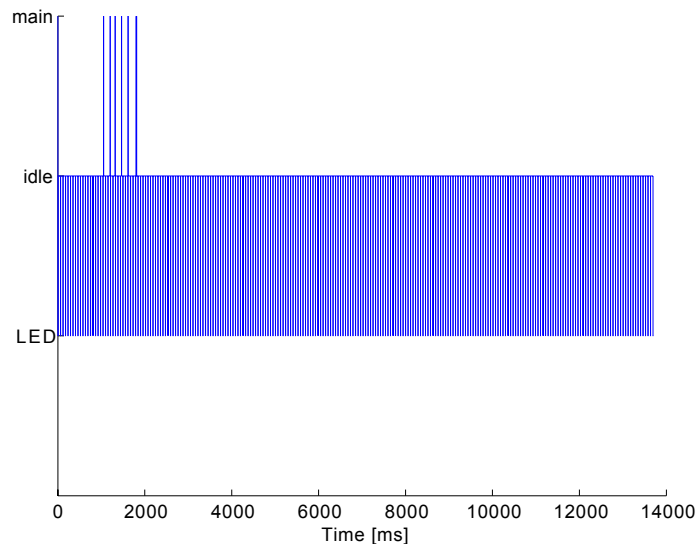

Figure 6.1: Execution of threads for the program listed in Exercise 6.6.
- The list of events does not allow you to quickly understand what is really going on. Therefore we now use the terminal program on the host computer to capture the terminal output in a file. Then we postprocess the trace file we have created in the previous step using Matlab. Thus start Matlab now. Type `show_trace('<the filename of the captured terminal output>')`, which opens a figure like the one shown in Fig. 6.1. Be sure to use a separate log file for each trace captured. In this figure, you can see time on x-axis and three threads on the y-axis.
What you can see is that the BTnode spends most of the time in the idle thread. Periodically, it switches to the LED thread and a few times, the main thread was active. The LED thread is responsible for the periodic blinking of the LEDs, it becomes active approximately every 60ms and takes about 300 μ s to execute. The main thread is responsible for capturing terminal input and launching the corresponding commands. Thus if you did not type `trace` while the buffer was filling, you will see only one spike to the main line at the very beginning of the trace. Otherwise (as shown in Fig. 6.1) you can see a spike for every letter of `trace` plus one when you pressed return. Parsing a keystroke takes about 600 μ s, executing the command after pressing enter takes much longer, approximately 6ms. When looking closely at the last spike, you may note that it actually consists of several spikes. This is due to the fact, that the `trace` command prints the status of the trace buffer to the terminal, but cannot do so in a single shot. It fills the UART buffer until it is full, then yields execution to the idle thread and is woken up when the buffer has become empty again to write the rest of the output.